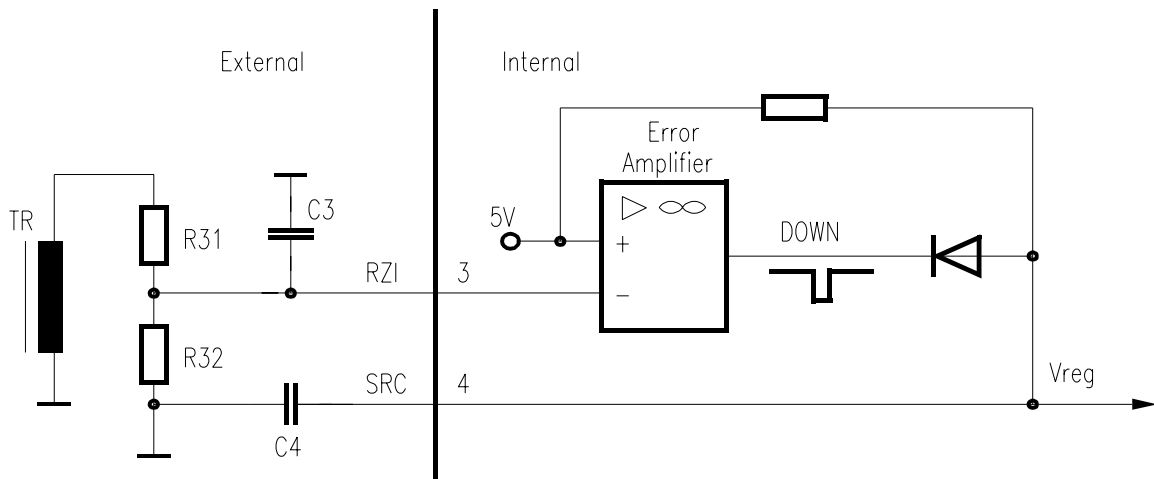
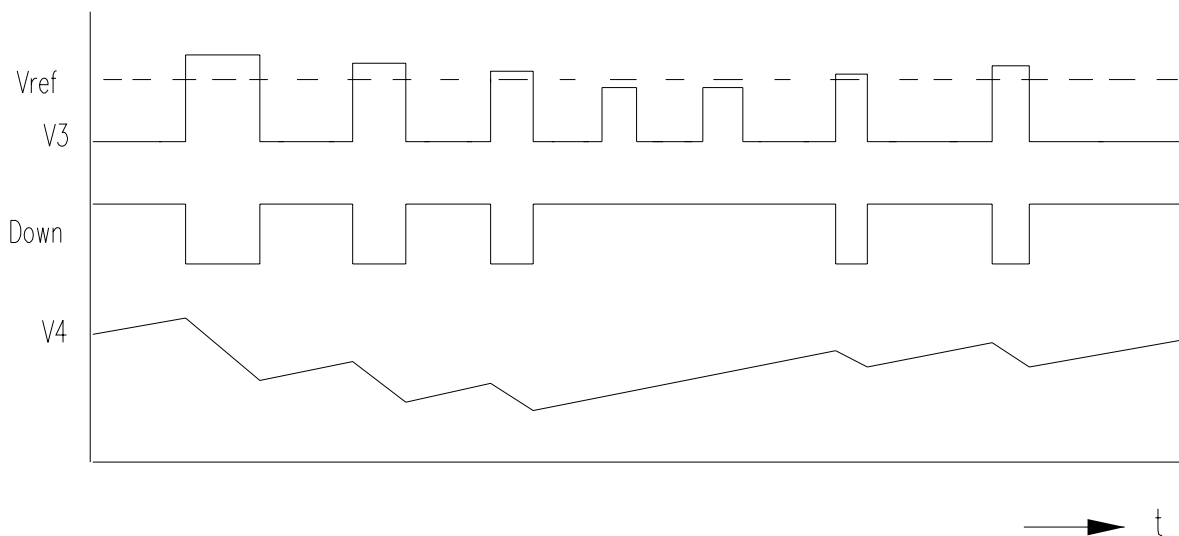

Figure 9 Error Amplifier
Figure 10 Regulation Pulse Diagram
Figure 9 shows the simplified Error Amplifier circuit. The positive input of the Error Amplifier (EA) is the reference voltage 5 V. The negative input is the pulsed output voltage from the auxiliary winding, divided by R_{31} and R_{32} . The capacitor C_3 is dimensioned only for delaying zero crossings and smoothing the first spike after switch-off. Smoothing of the regulation voltage is done with the soft start capacitor C_4 at Pin 4. During start up C_4 is charged with a current of approx. 2 mA (Soft Start). For primary regulation C_4 is charged and discharged with pulsed currents. **Figure 10** shows the voltage diagrams of the Error Amplifier circuit.